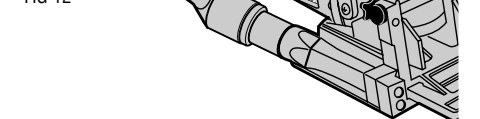
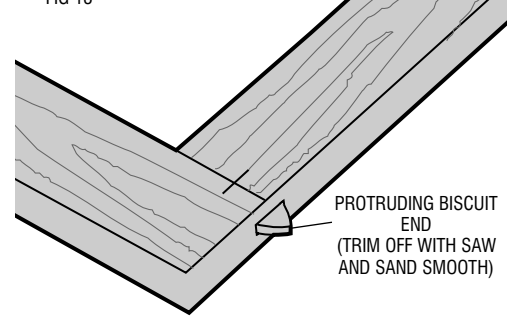
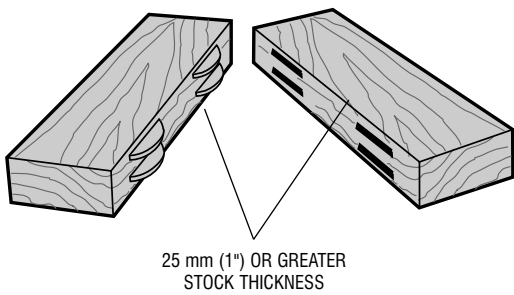

FIG 13
FIG 14
FIG 15
Generally, biscuits may be spaced and located at your discretion. For edge joints, a good rule of thumb is to space biscuits every 150 mm – 254 mm (6–10") on center. It is further recommended that biscuits be placed so that the centerline of the end biscuits is 50 mm – 74 mm (2–3") from the end of the workpiece. When joining face frames or picture frames where the workpiece is narrow, you may have to choose the smaller biscuit sizes to keep from "breaking out" on the end of the joint. Breaking out should be avoided if possible, but if not you can assemble the joint and trim off the exposed biscuit tip after the glue sets (see Figure 13). When working with material up to 1" thick, we advise to use a single biscuit located in the approximate center of the material thickness. If thicker stock is to be joined, you may choose to use 2 biscuits across the thickness for greater strength (see Figure 14). Biscuit locations should be marked by first positioning the mating pieces exactly as they are to be assembled. Next, make a mark at 90° to the joint interface across both pieces at the desired biscuit locations (see Figure 15). See **Application** section for more specific information on joint layout. The marks you make will then be aligned with one of the center registration marks on the tool, again, depending upon your specific application.
- Select the proper biscuit size based on the length of the joint. (If the frame pieces are too narrow for a #0 biscuit, you will have to allow the biscuit tip to protrude slightly and then trim it off after the joint is dry (see Figure 13).